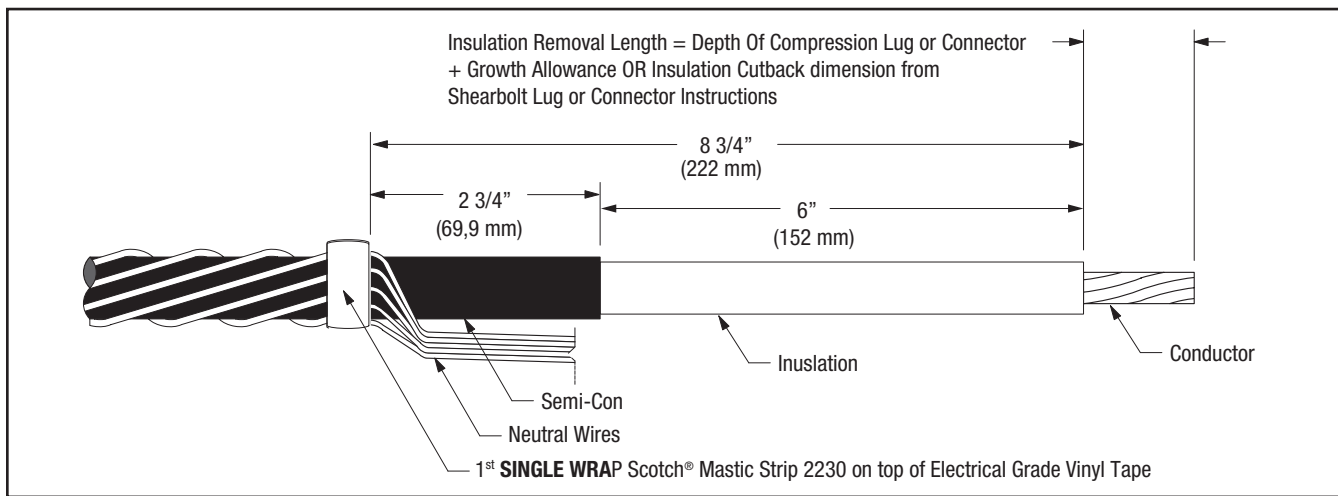

Figure 7
- 6.3 Prepare cable using dimensions shown in Figure 7. **BE SURE TO ALLOW FOR DEPTH OF TERMINAL LUG OR CONNECTOR.** If using 3M Shearbolt Lugs QL2 Series: Two Hole, 3M Shearbolt Stem Connector QP 7-4/0 or 3M Mechanical Shearbolt Connector QCI Series, proceed to Step 6.4. If using a Crimp Type (Compression) lug, measure the depth of the barrel. If using a Crimp Type (Compression) connector, measure to the barrel center stop/midpoint, and see the NOTE below in order to calculate the Insulation Removal Length. Table 7 can be used to assist in calculating the total Jacket Removal Length when using a compression lug or connector.
- 6.5 Secure neutral wires to cable with several highly stretched layers of electrical grade vinyl tape around the cable and neutral wires 2 3/4" (69,9 mm) from cut edge of cable semi-con (Figure 7).
- 6.6 Select a Scotch® Mastic Strip 2230 from kit and remove white release liners. Using light tension, apply a **SINGLE WRAP** of mastic around the cable and neutral wires 2 3/4" (69,9 mm) from cut edge of cable semi-con, directly on top of vinyl tape (Figure 7). Cut off excess.